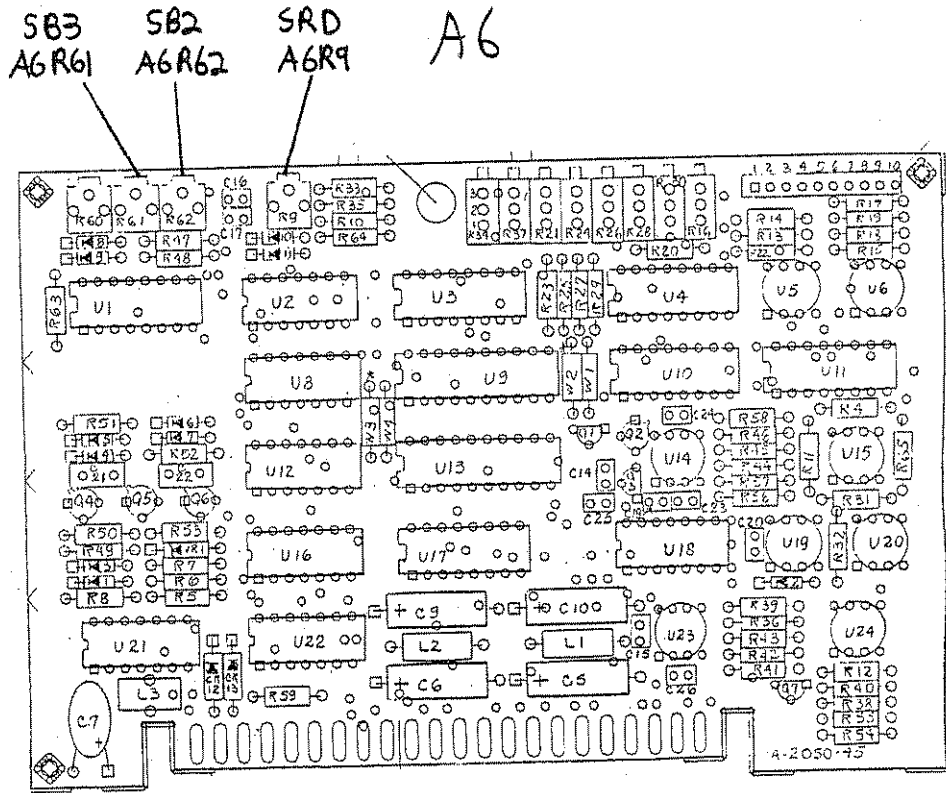

Figure 5-23. SRD Bias Adjustment Locations.
7. Adjust A6R9 (SRD) to peak the trace at the end of each band. Refer to Figure 5-23 for adjustment locations.